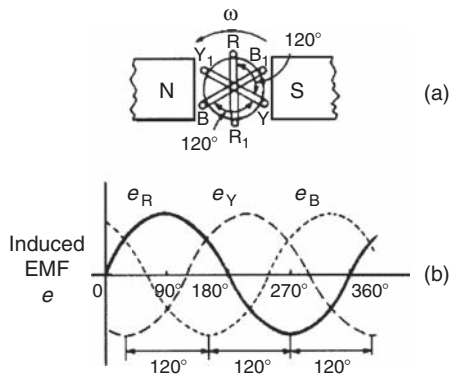

Figure 20.2
A **three-phase supply** is generated when three coils are placed 120° apart and the whole rotated in a uniform magnetic field as shown in Fig. 20.2(a). The result is three independent supplies of equal voltages which are each displaced by 120° from each other as shown in Fig. 20.2(b).
- The convention adopted to identify each of the phase voltages is: R-red, Y-yellow, and B-blue, as shown in Fig. 20.2
A three-phase a.c. supply is carried by three conductors, called ‘**lines**’ which are coloured red, yellow and blue. The currents in these conductors are known as line currents (I_L) and the p.d.’s between them are known as line voltages (V_L). A fourth conductor, called the **neutral** (coloured black, and connected through protective devices to earth) is often used with a three-phase supply. If the three-phase windings shown in Fig. 20.2 are kept independent then six wires are needed to connect a supply source (such as a generator) to a load (such as motor). To reduce the number of wires it is usual to interconnect the three phases. There are two ways in which this can be done, these being: